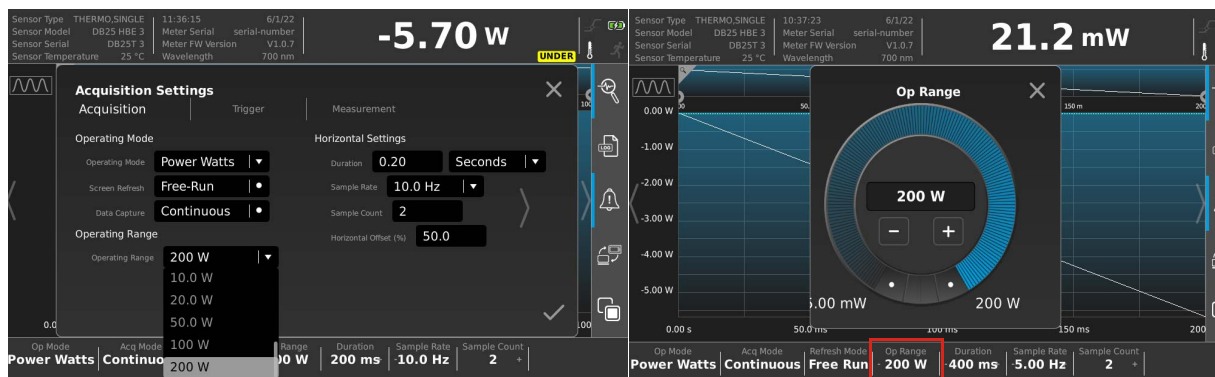

Figure 6-9. Set Operating Range from Settings Menu or Bottom Button Bar
9. In the **Range** field, set the operating range to the next value higher than the maximum expected power. Operating range can also be set by pressing Op Range in the bottom menu bar. Refer to Figure 6-9.